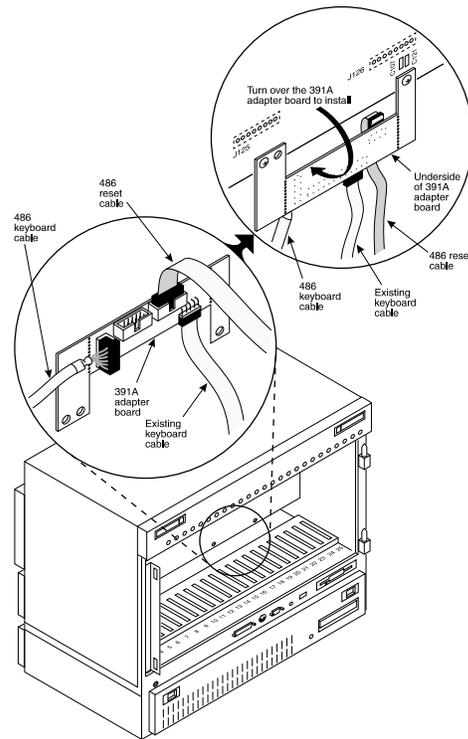

Figure 4-8. CPU/RMB Keyboard Adapter Installed in the MAP/100C
3. Plug the new 486 keyboard cable into J4. Refer to Figure 4-8 for the correct orientation.
4. Plug the new RMB reset cable connector onto J3, referring again to Figure 4-8.
16. Insert the RMB into slot #18 and attach the 2 cables. Secure the card with a screw through the faceplate. Refer to "General Steps for Circuit Card Installation" in Chapter 3 for more information about the correct way to install a circuit card. See Figure 4-8 for the correct connections.
17. Insert the CPU part way into slot #16 and attach the keyboard/reset cable. Complete the insertion, attach the communications port cable "P302" and secure the card with a screw through the faceplate. The tracer wire should be oriented away from the faceplate. Again, see Figure 4-8 for the correct connections.